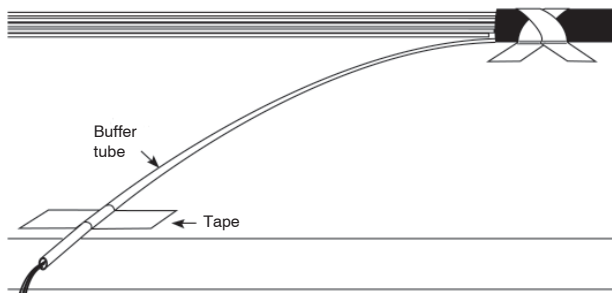

Figure 21
8.1 Secure the cable end down to a work surface with tape so that the marks on the buffer tubes can reach the work surface edge (see Figure 21).
8.3 Tape down the buffer tube to receive the BTF so that 1-2 inches of tube overhang the work surface edge as shown in Figure 21.